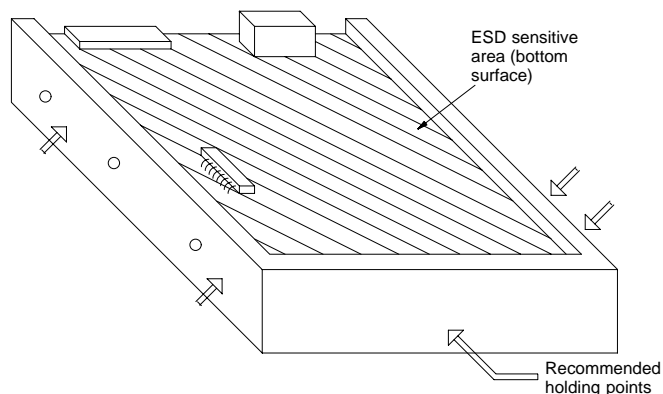

Figure 4-4. ESD-Sensitive Area of an Electronic Component
- Hold devices such as a hard disk, floppy drive, or streaming tape in the same manner as a large circuit card. The ESD-sensitive area of these components is located on the bottom surface (Figure 4-4).